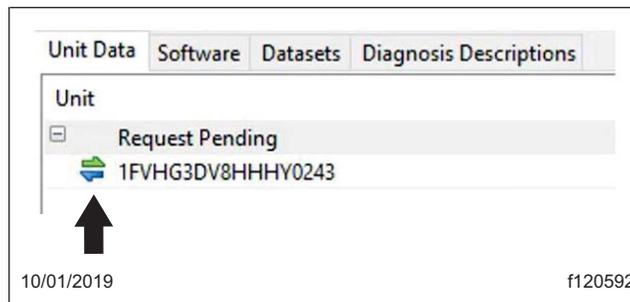

Fig. 4, Update Data Symbol
10. On the "Program Device" tab, the "Upload Data" symbol will appear next to the VIN. See Fig. 4.